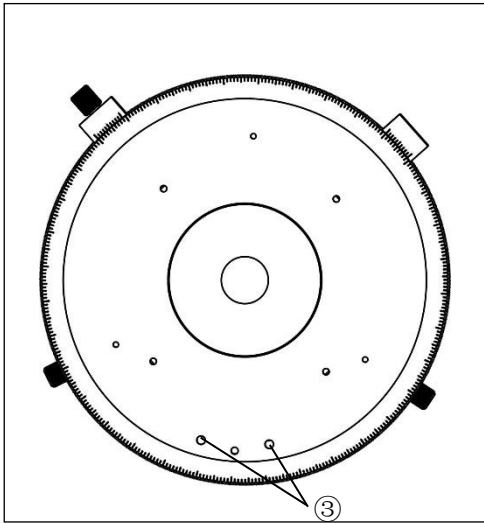

Figure 5
**4-2-3 Install the polarizing moving ruler (Figure 5)**